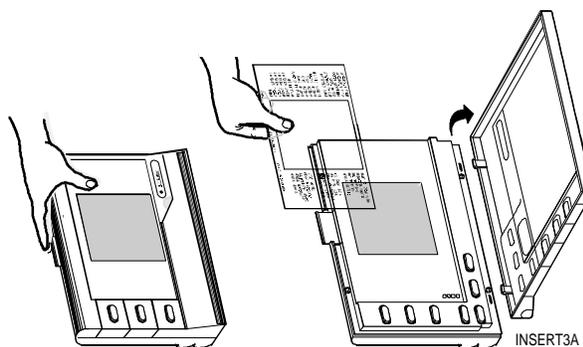

Figure 2: Installing the Insert
1. With the ZT on a flat surface, press the white tab with your index finger (Figure 2).